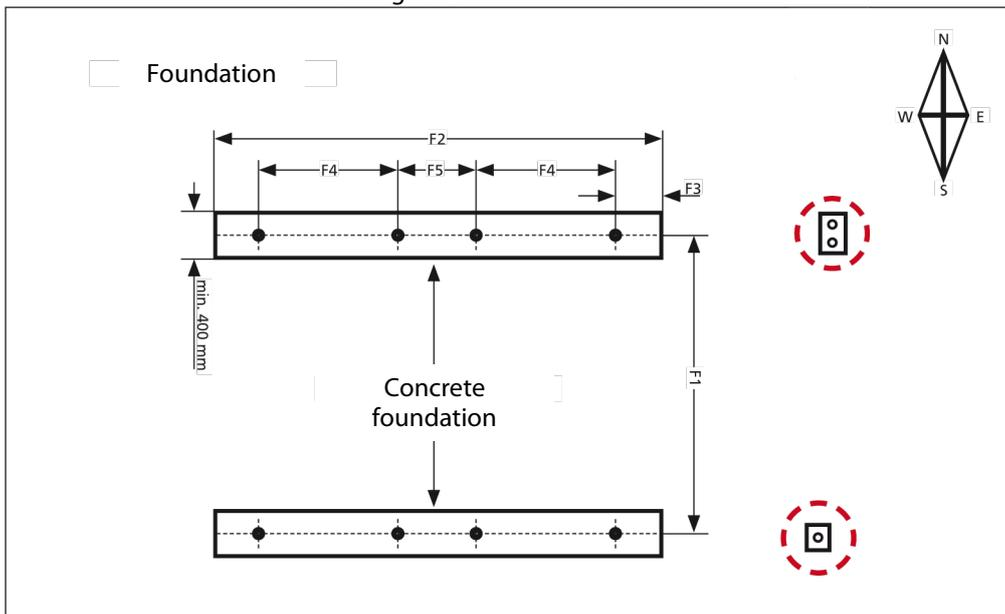

Figure 01
- Using figure 01, measure and make marks on the concrete
Before attaching, make sure you have properly positioned the wide U formed sections for the part pointing towards the foundations pole and the narrow U formed sections for the part pointing towards the equator (see Figure 01, red circles).